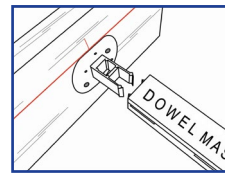
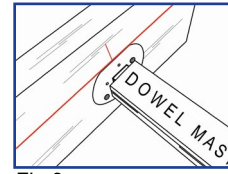

Fig 2
Fig 3
Step 2: Place the first Dowelmaster sleeve over the protruding tabs on the Nailing Plate (Fig 2), then push sleeve firmly against the back face of the Nailing Plate (Fig 3). This will ensure wet concrete does not seep into sleeve.